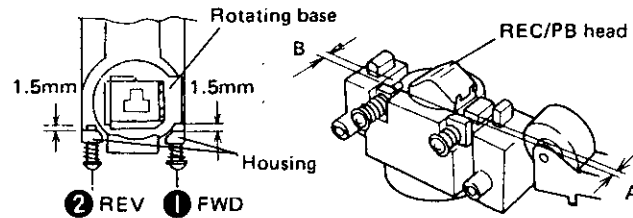

Fig. 12-2 Azimuth adjustment point
2. Using a screwdriver as shown in Fig. 12-2, adjust gap A between the housing and the revolving base to 1.5mm by turning screw ①.
4. Using the screwdriver again, adjust gap B between the housing and the revolving base to 1.5mm by turning screw ②.